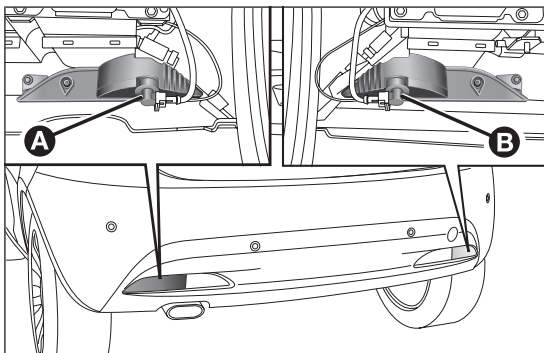

fig. 140
- working from inside the bumper, turn the bulb holder unit A fig. 140 by a 1/4 turn;
- working from inside the bumper, turn the bulb holder unit B fig. 140 by a 1/4 turn;